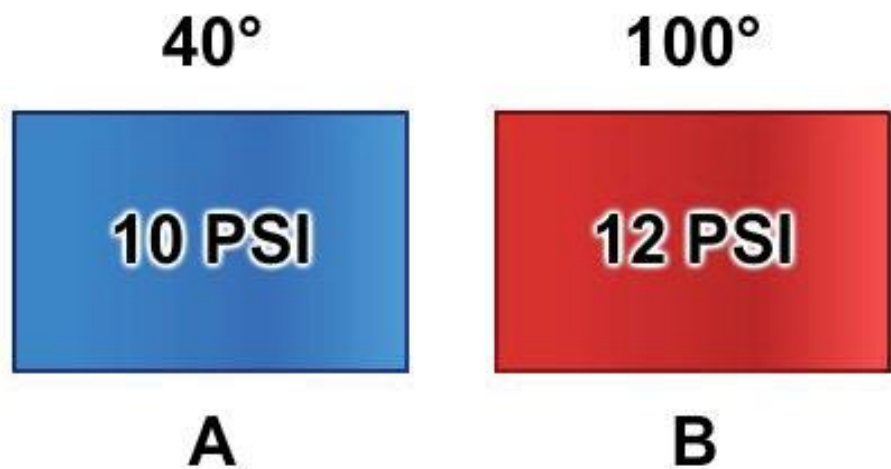

Figure 2-8 — Interaction of gases in respect to temperature and pressure.
- When the volume is held constant, an increase in the temperature of a gas causes a proportional increase in pressure. A decrease in the temperature causes a proportional decrease in pressure, as shown in *Figure 2-8*. Tanks A and B are of the same size and have an equal volume of gas. Tank A has a pressure of 10 psi when heated to 40 °F. Tank B has a pressure of 12 psi when heated to 100 °F. Unlike the balloons, the steel tanks do not expand to accommodate the changes in temperature and pressure. This example shows that changes in temperature are inversely proportional to changes in gas pressure when the volume is held constant.